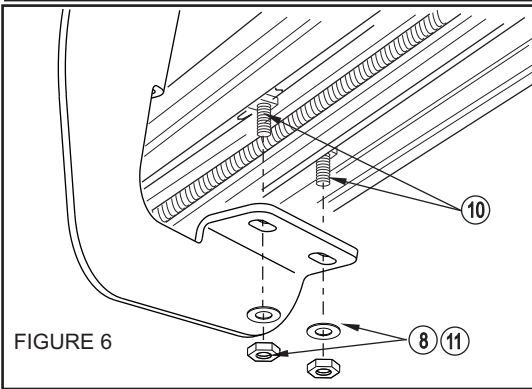

FIGURE 6
- STEP 6. Attach board to brackets as shown. Make sure board and brackets are properly aligned and tighten fasteners. Recommended torque values are 22 Ft.Lbs. For M8 hardware. SEE FIGURE 6.